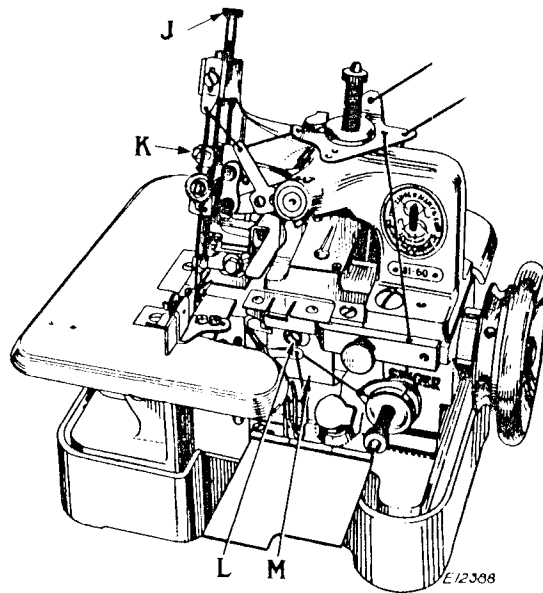

Fig. 9. Adjustments on the Machine
The pressure on the material is regulated by means of the thumb screw (J, Fig. 9). To increase the pressure, turn this thumb screw downwardly. To decrease the pressure, turn the thumb screw upwardly.
The length of stitch is regulated by means of the adjusting screw (L, Fig. 9) in the feed eccentric. This screw faces directly outward.
To change the length of stitch, turn the machine pulley until the lock screw in the feed eccentric appears in the hole of the cover (M, Fig. 9). This screw faces slightly downward. Loosen the lock screw. Then turn the machine pulley until the adjusting screw (L) is visible through the hole in the cover (M). Turn the adjusting screw (L) over to the right for a long stitch. Turn this screw over to the left for a short stitch. Then turn the machine pulley over until the lock screw appears and securely tighten this screw.
Now turn the machine pulley over from you until the needle bar has risen  $\frac{3}{32}$  inch from its lowest position. The point of the left hand looper, on its loop taking stroke, should then be at the centre of the needle, and the eye of the needle should be about  $\frac{1}{16}$  inch below the looper point. If the needle bar is not at the correct height, loosen the pinch screw (K, Fig. 9) and move the needle bar upward or downward as required, then securely tighten the pinch screw (K).